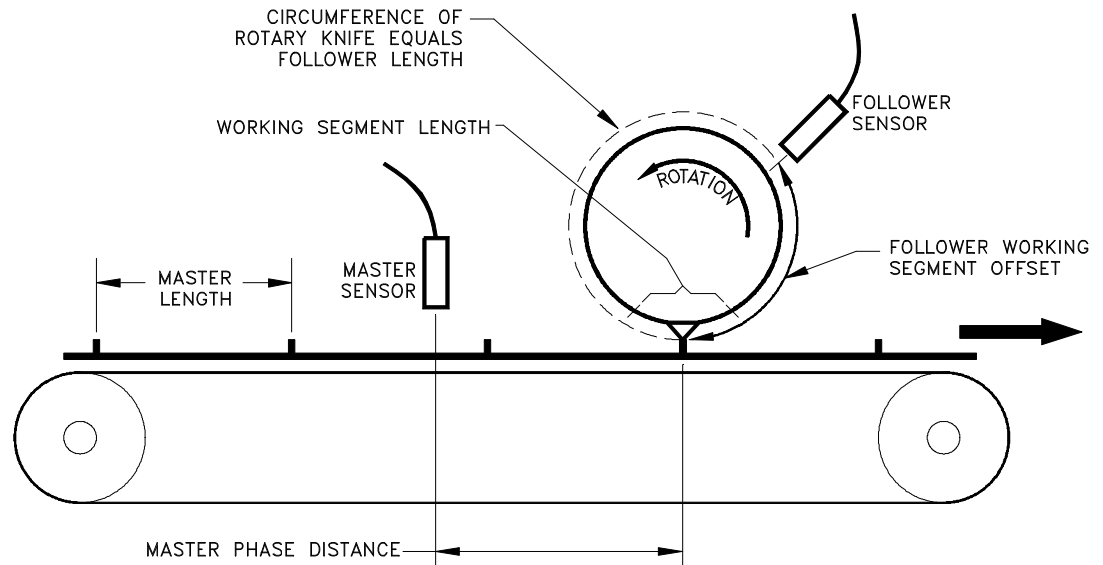

Figure 3 Rotary Knife System
- **Master Length:** Referring to Figure 3, the Master Length, in user units is the distance that the master axis (encoder or upstream drive) moves during each master cycle.
- **Follower Length:** Referring to Figure 3, the Follower Length, in user units, is the distance the follower axis (DX motor) moves during each follower cycle.
In Figure 3 the master phase distance may be greater than the master length. If the cut point is on the registration mark, the exact length from the master sensor to the master cut point may be entered as master phase distance.